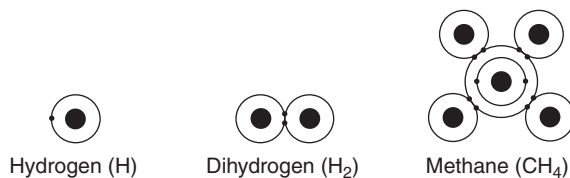

Figure 19.5
- Oxygen (O), the first element illustrated has an outer shell with six electrons. It needs two more to form the stable octet. Its valence is two. As shown, e.g., in the water molecule, H2O (or H–O–H) oxygen is bonded to two hydrogen atoms. (You may correctly surmise from this that the valence of H is one.)
- Note that nitrogen (N) has five electrons. It needs three more, so its valence is three. A common compound that N forms is ammonia with three hydrogens, NH3.
- And carbon (C) – so all-important to life – has only four electrons. It needs four more.11 Its valence is four. The simplest example of an organic C compound is methane, CH4 (Figure 19.5).
Several very light elements are *exceptions* to the stable octet as they have too few electrons. For these elements, think about the innermost shell, which needs only two electrons to be full. Examine Figure 19.5.
- Hydrogen ( $^1\text{H}$ ) has only one electron. It needs one more to be stable. So H has a valence of one. If another H atom is available, the two will react to form  $\text{H}_2$  gas (Figure 19.5): they share the pair of electrons. Other examples given in the paragraph above also indicate the valence of one for hydrogen:  $\text{H}_2\text{O}$ ,  $\text{NH}_3$ , and  $\text{CH}_4$ . ▀ Hydrogen very often reacts with carbon to form organic compounds (described later in this chapter). A major group of compounds formed by the reaction of H with C is the hydrocarbons such as those in petroleum or coal. The simplest hydrocarbon is methane. A carbon atom with its valence of four reacts with four hydrogens to form methane,  $\text{CH}_4$  (Figure 19.5).
In a covalent bond the atoms *share* electrons – as shown for  $\text{H}_2$  in Figure 19.5. Also see the diagram for methane,  $\text{CH}_4$ . Notice that each of the four hydrogens in  $\text{CH}_4$  is sharing a pair of electrons with carbon. Each H now has a stable configuration, and carbon has formed the stable octet. ▀ Covalent bonds are found in countless chemicals. You may remember from earlier chapters the names of chemicals such as carbon monoxide (CO), methane ( $\text{CH}_4$ ), ammonia ( $\text{NH}_3$ ), oxygen ( $\text{O}_2$ ), nitrogen ( $\text{N}_2$ ), formaldehyde (HCHO), benzene
Look at the two molecules in Figure 19.5,  $H_2$  and  $CH_4$ .